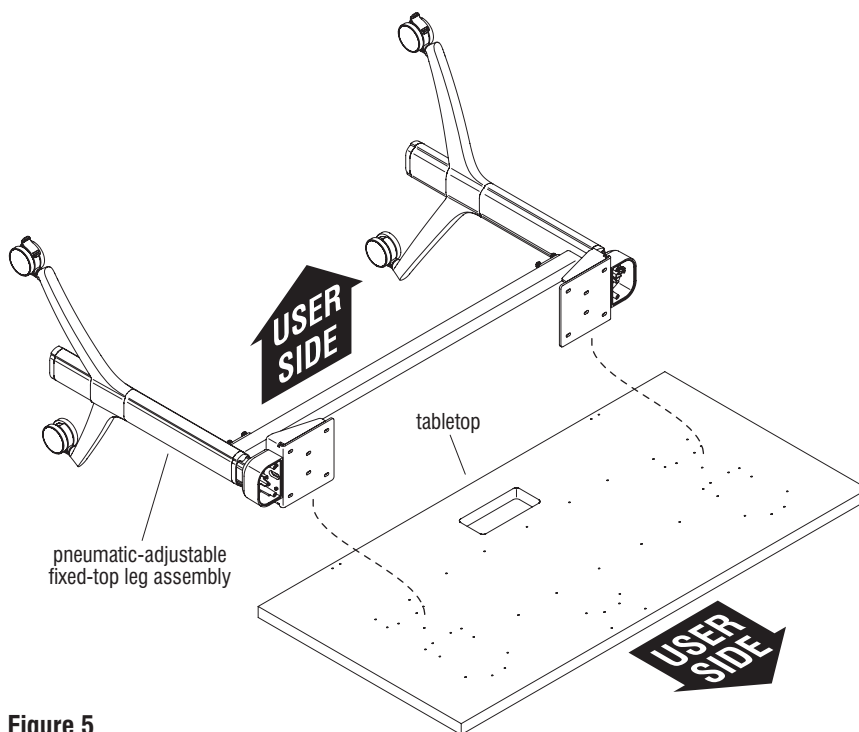

Figure 5
- Carefully place the tabletop upside down on a soft, protective surface. Take note that the "user side" of the tabletop has pilot holes for the cable actuator assembly near the middle, front edge. Carefully position the non-user side of the pneumatic-adjustable fixed-top leg assembly onto the tabletop as illustrated (Figure 5).